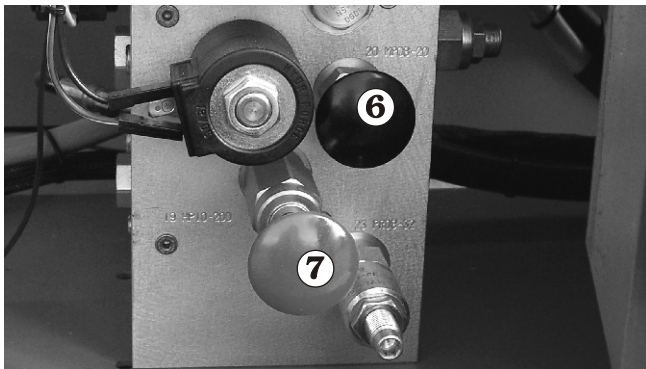

Figure 9.10
4. To release the brakes, pump the hand pump ⑦ 5 - 10 times. (see Figure 9.10). The brakes will now be released and the SR is ready to be pushed or towed.